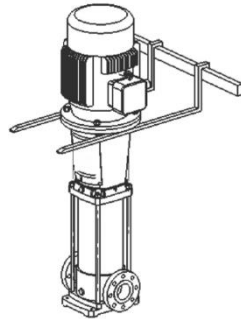

Figure 1: 0.37 – 7.5 KW
- When lifting the VIMS Series, figures 1 & 2 are highly recommended: